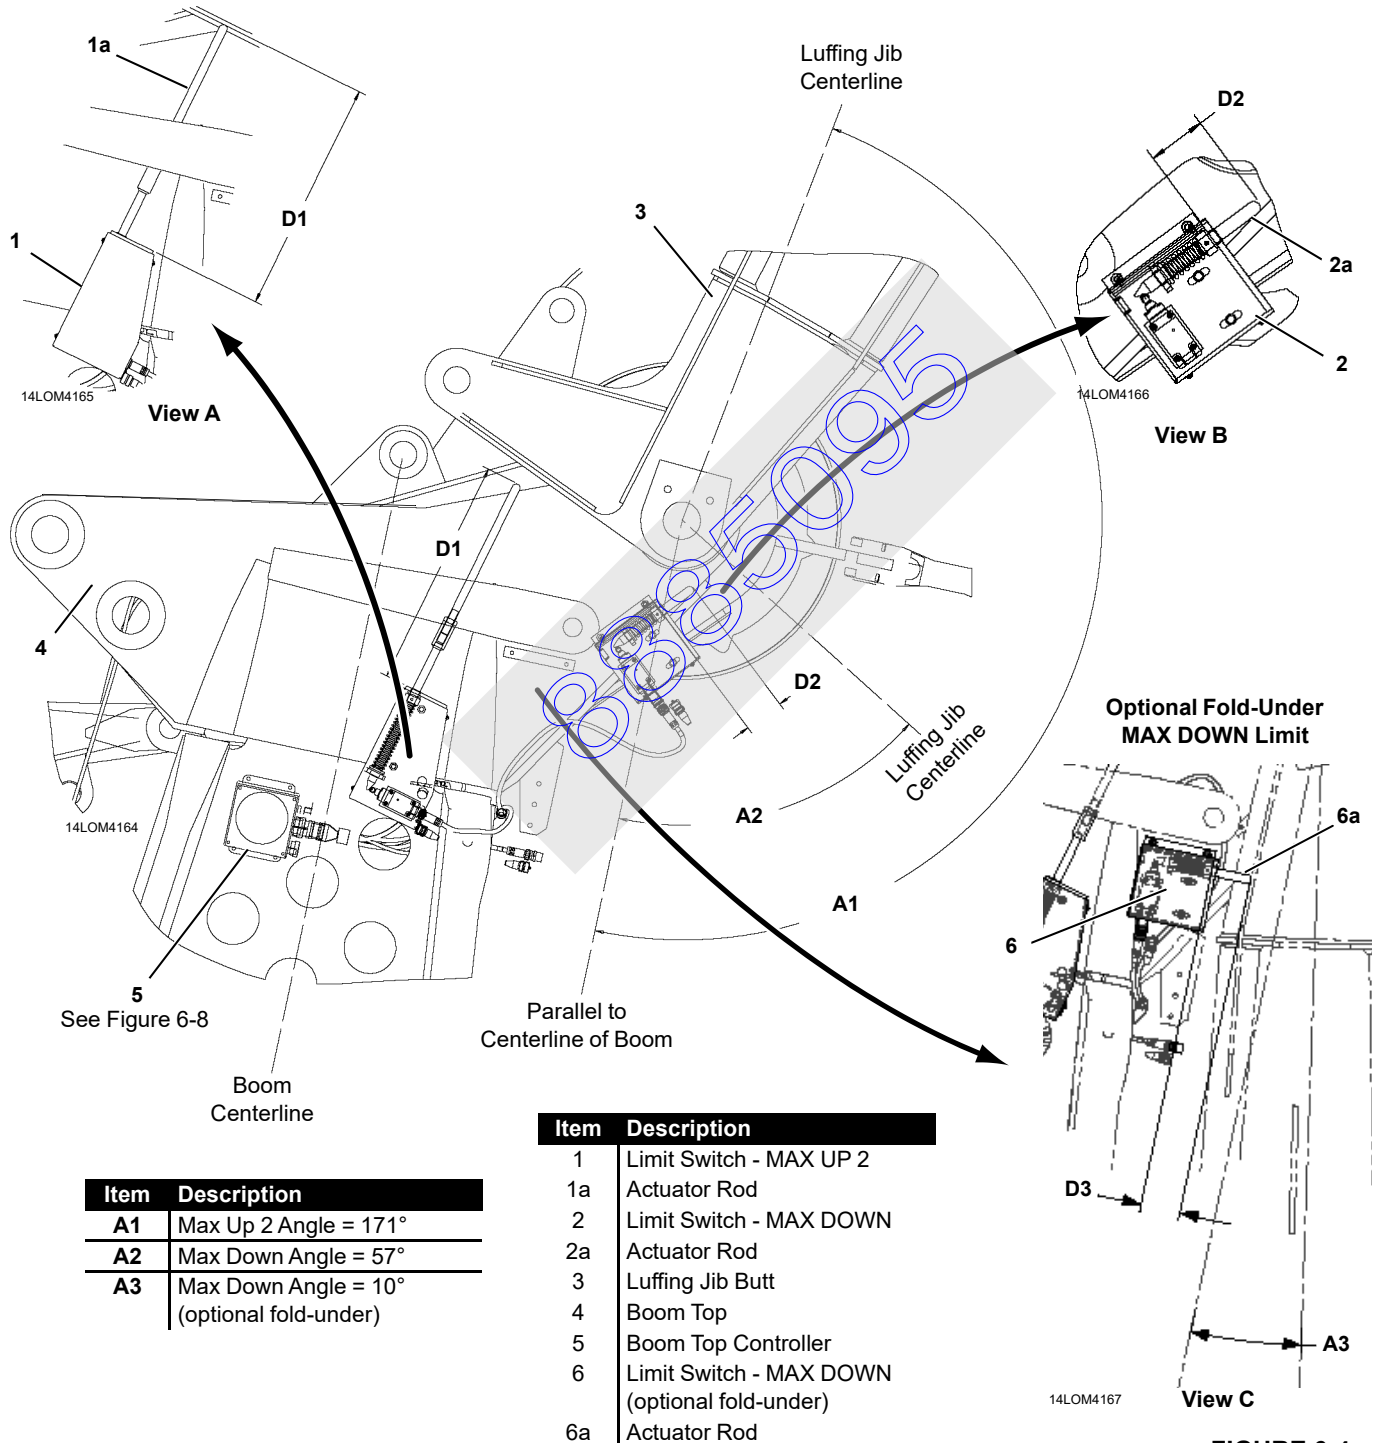

FIGURE 6-4
- JIB MAXIMUM UP 2 (maximum angle limit) – 171° boom to luffing jib angle. This limit is controlled by limit switch (1, Figure 6-4).
- JIB MAXIMUM DOWN (minimum limit) – 57° minimum limit switch is provided as a backup to stop the jib if the programmed minimum limit fails (2, Figure 6-4).
- JIB MAXIMUM DOWN (minimum limit) – 10° minimum limit switch is provided as a backup to stop the jib if the programmed minimum limit fails (6, Figure 6-4).
See Figure 6-4 for the following procedure.